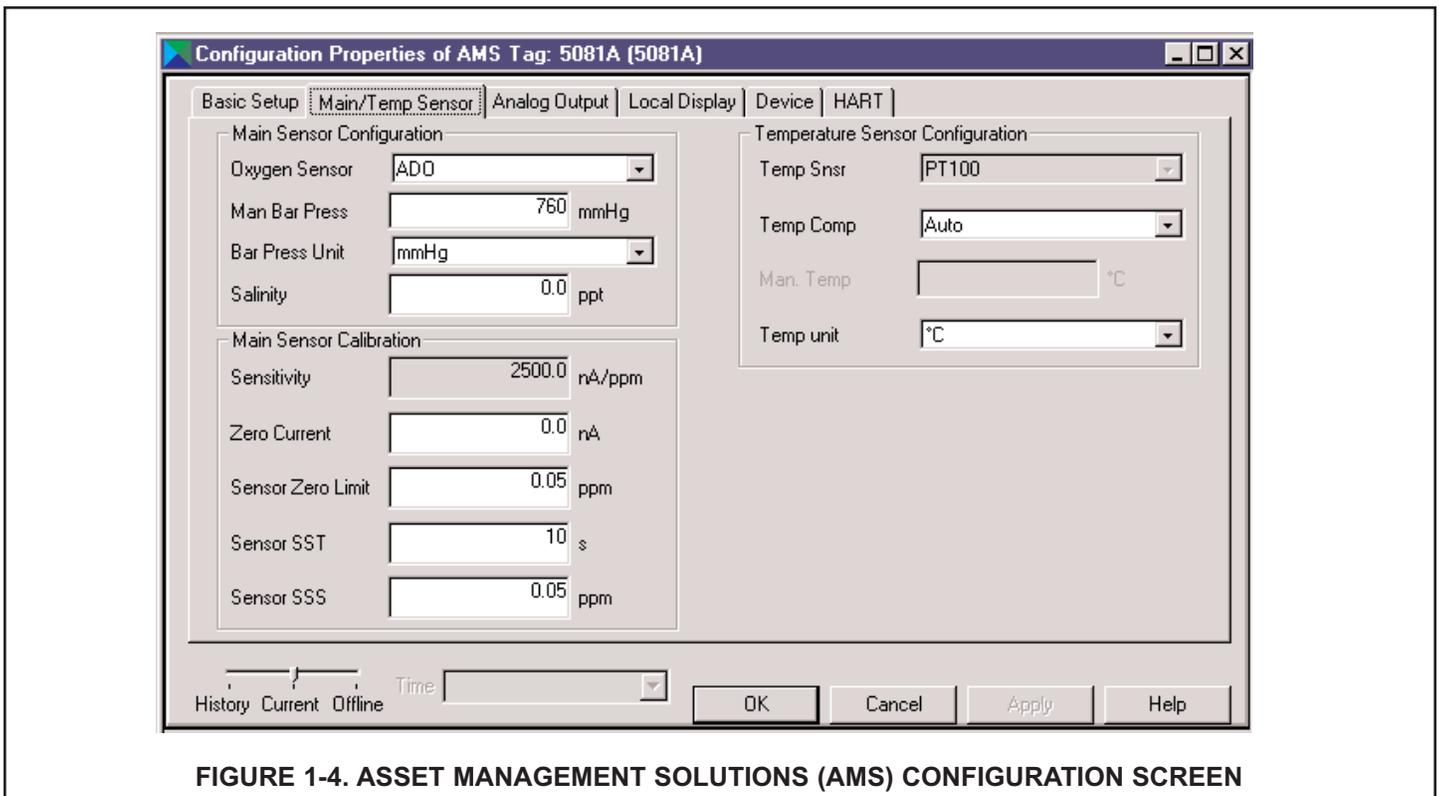

FIGURE 1-4. ASSET MANAGEMENT SOLUTIONS (AMS) CONFIGURATION SCREEN
1.11 ASSET MANAGEMENT SOLUTIONS (AMS) (FIGURE 1-4)
Rosemount Analytical AMS windows provide access to all transmitter measurement and configuration variables. The user can read raw data, final data, and program settings and can reconfigure the transmitter from anywhere in the plant. Figures 1-4 and 1-5 show two of the many configuration and measurement screens available.